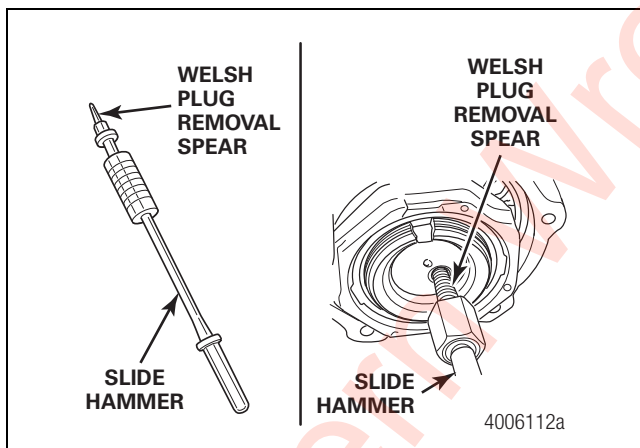

Figure 2.8
5. Use a slide hammer fitted with the welsh plug removal spear to remove the spindle welsh plugs from both ends of the axle. Use care not to score the inside diameter of the spindle bore. Figure 2.8. A slide hammer and welsh plug removal spear are available from Meritor to help remove these plugs. Refer to Section 7 for part numbers of special tools and supplies.